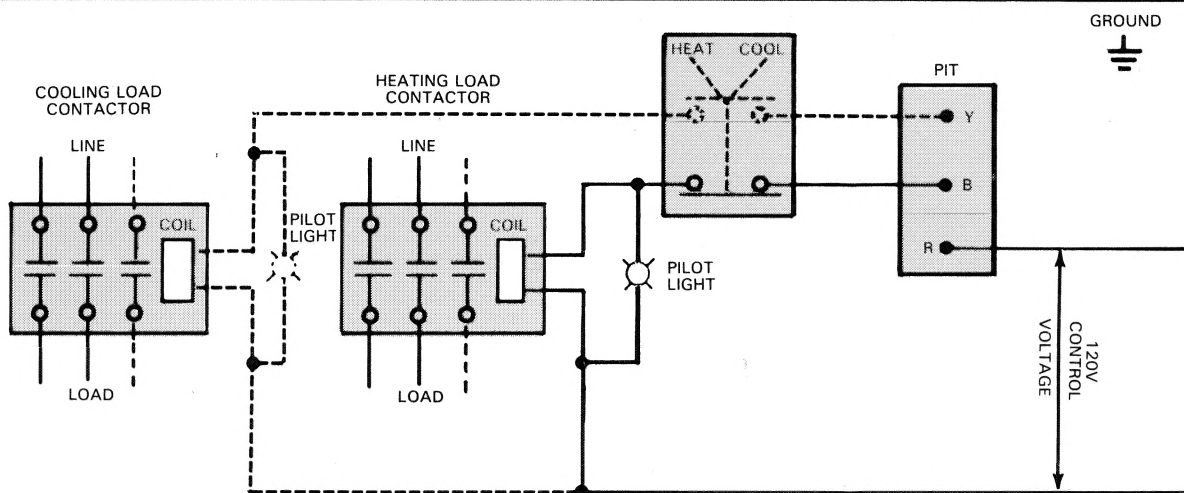

Figure 8 — Wiring diagram showing three phase or single phase where load ampere or voltage rating exceeds switch rating.
6. Note: On a three phase load or if load amperage or voltage rating exceeds switch rating, a contactor must be used. (See Figure 8) Contactor and wiring to be supplied by customer.